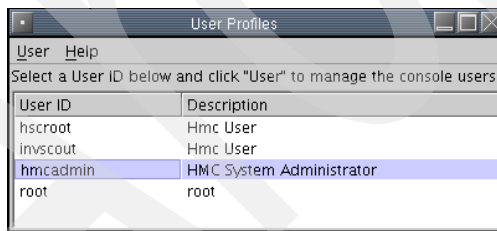

Figure 7-6 User Profiles user ID list updated
4. Click **OK** to create a new user. The new user ID will be added in User profiles window as shown in Figure 7-6.